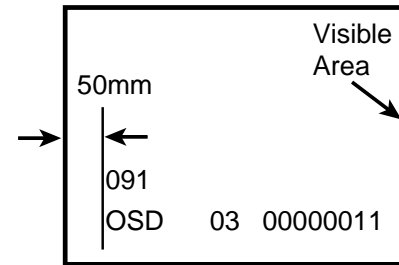

Figure 9.
6. Adjust the + or - key for proper position shown in Figure 9. To turn off the Service Menu display, press the MENU key.